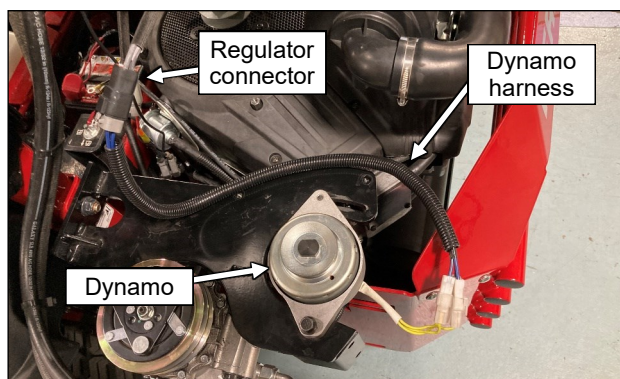

Fig. 6.9 (Dynamo connections)
- 6.9 See fig. 6.9. Connect the 4-pin connector from the regulator harness to the connector from the voltage regulator. Connect the other end of the harness to the dynamo mounted to the compressor bracket.